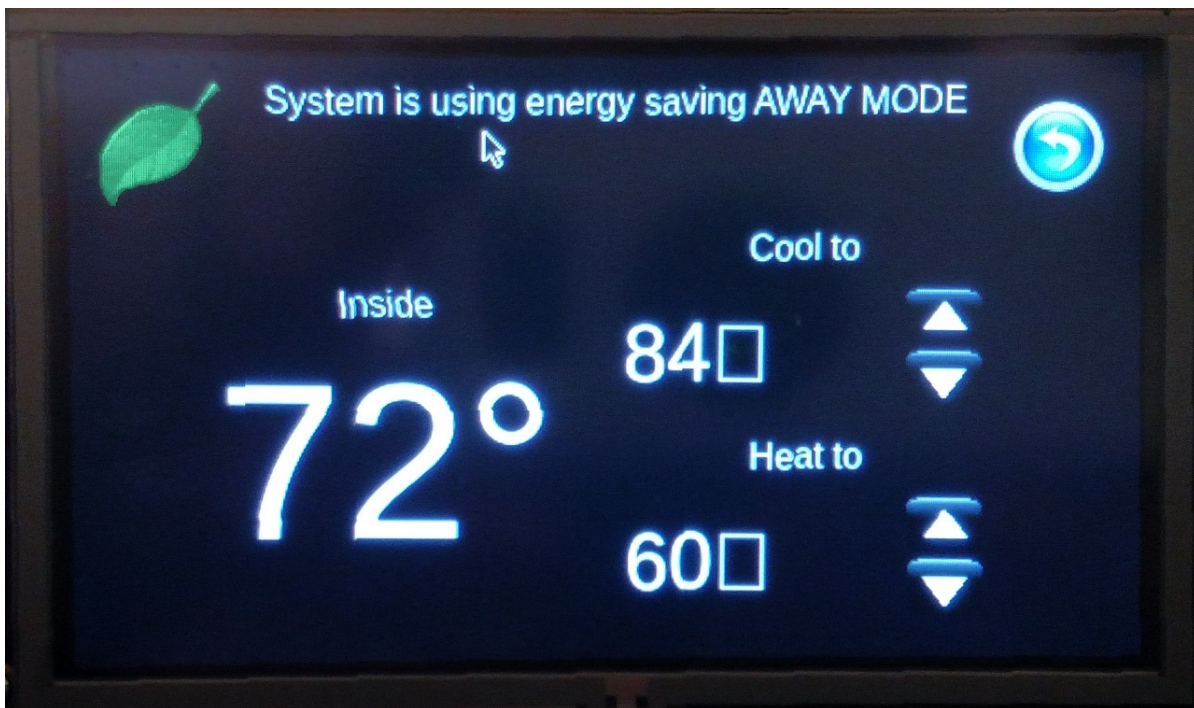

Figure 10. Smart Thermostat Demo GUI: Energy Saving Screen
5. The Airplane icon in Figure 9 leads to the energy saving mode screen shown in Figure 10.